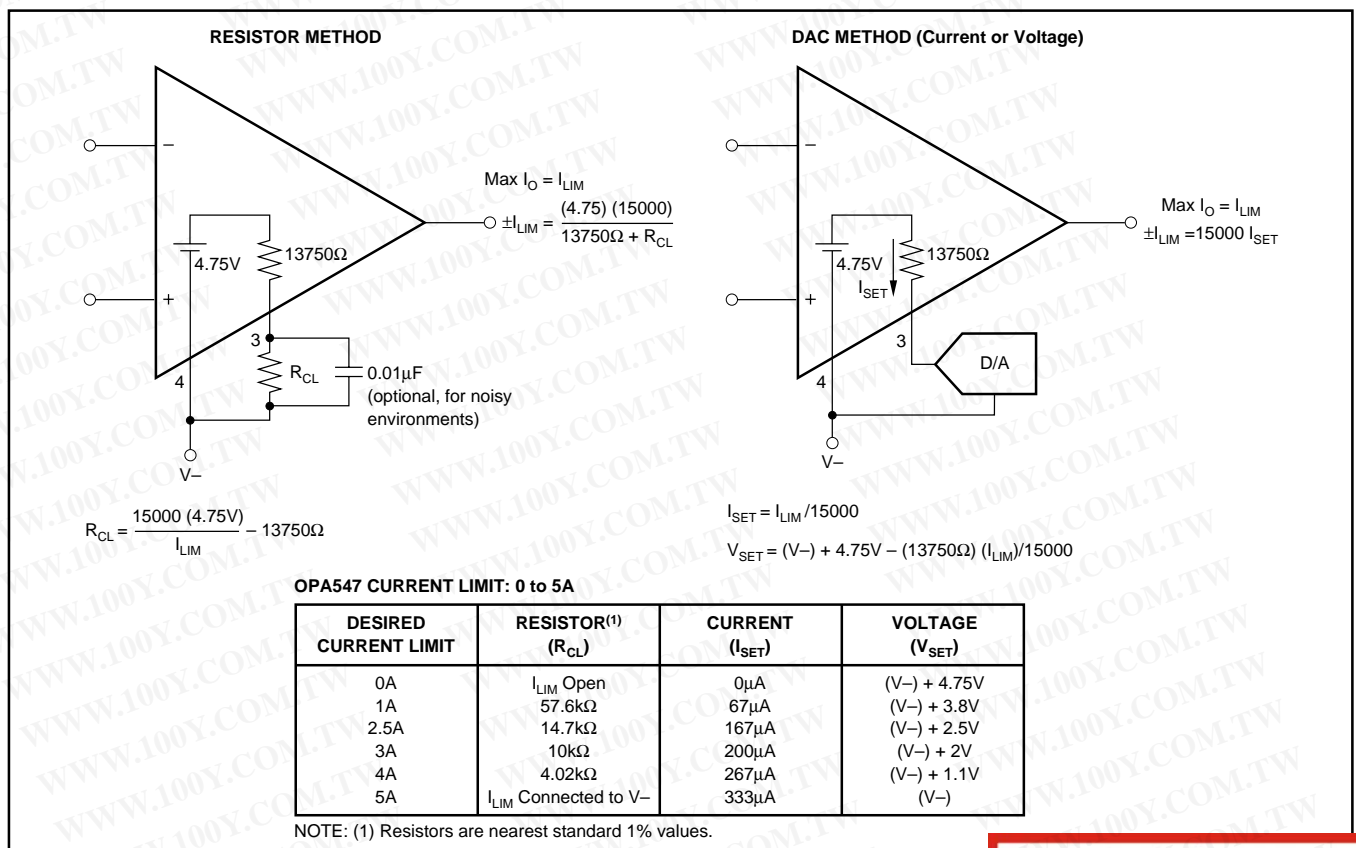

FIGURE 3. Adjustable Current Limit.
See Figure 3 for a simplified schematic of the internal circuitry used to set the current limit. Leaving the  $I_{LIM}$  pin open programs the output current to zero, while connecting  $I_{LIM}$  directly to V– programs the maximum output current limit, typically 5A.
NOTES: (1) Works well for  $G < 10$ . Input offset causes output current to flow between amplifiers with  $G > 10$ . Gains (resistor ratios) of the two amplifiers should be carefully matched to ensure equal current sharing. (2) As configured ( $I_{LIM}$  connected to  $V_-$ ) output current limit is set to 10A (peak). Each amplifier is limited to 5A (peak). Other current limit values may be obtained, see Figure 3, "Adjustable Current Limit".